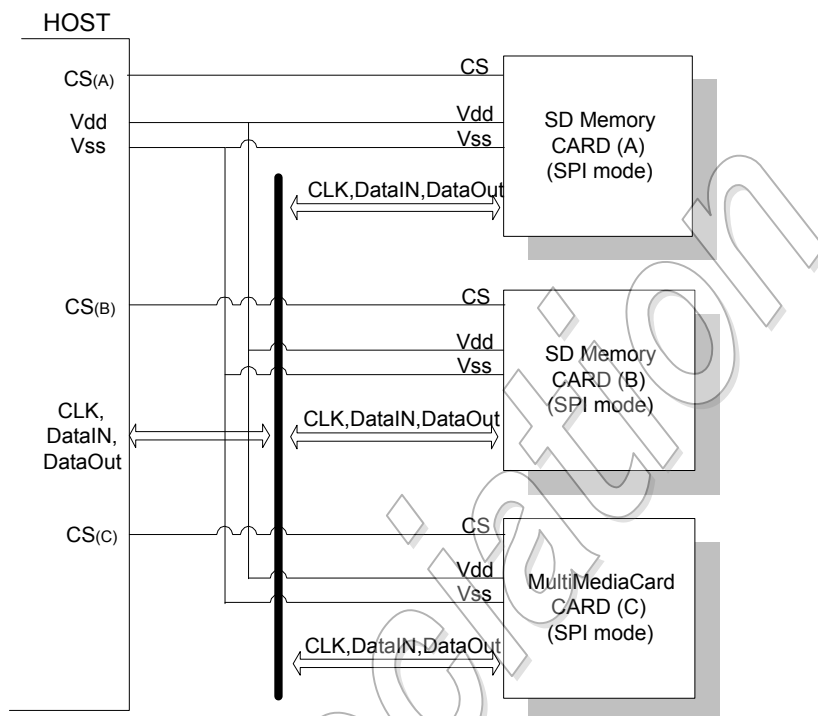

Figure 3: SD Memory Card system (SPI mode) bus topology
The card identification and addressing methods are replaced by a hardware Chip Select (CS) signal. There are no broadcast commands. For every command, a card (slave) is selected by asserting (active low) the CS signal (see Figure 3).